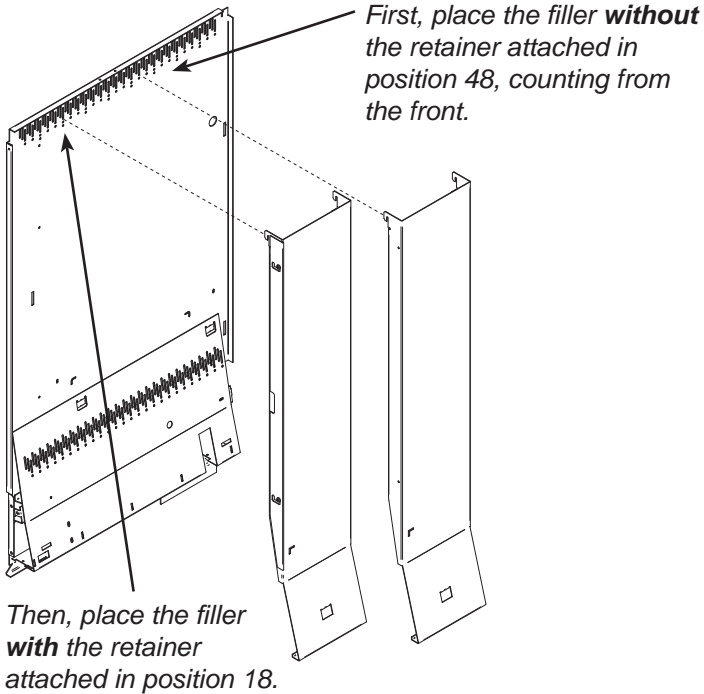

Figure 11.
9. Install the anti-friction sheets in the positions shown in Figure 11.